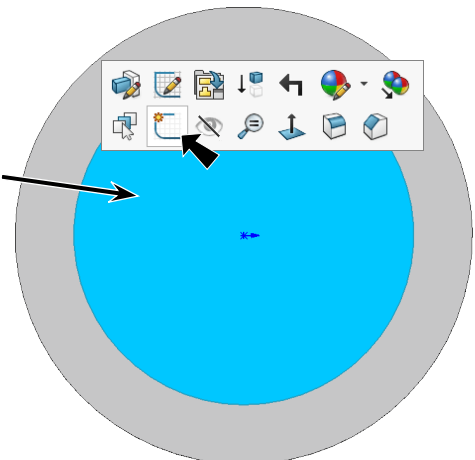

Fig. 7
Step 2. Click the **bottom face** and click **Sketch**  on the context toolbar, **Fig. 7**.
Step 3. Click **Circle**  (S) on the Sketch toolbar.